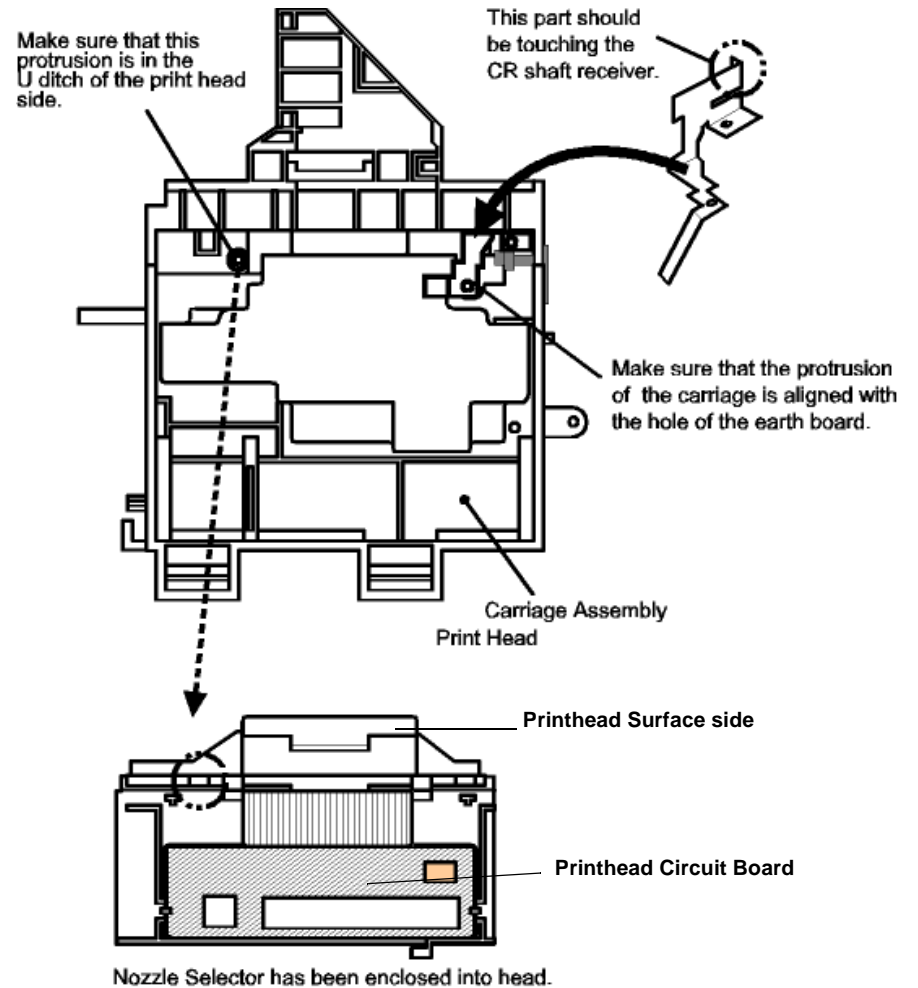

Figure 4-8. Installing the Printhead
- Make sure that the earth board is installed at the right corner of the CR unit correctly. There are 2 pins used to determine the location. Refer to Figure 4-8.
- When you install the printhead to the carriage, make sure that the protrusion on the carriage side is placed in the U-ditch of the printhead. Refer to Figure 4-8.